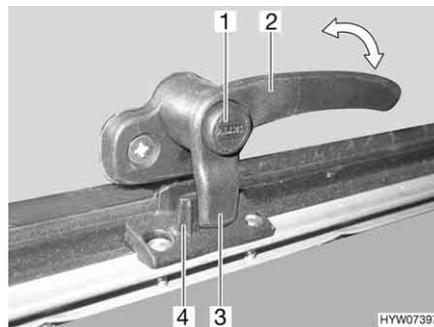
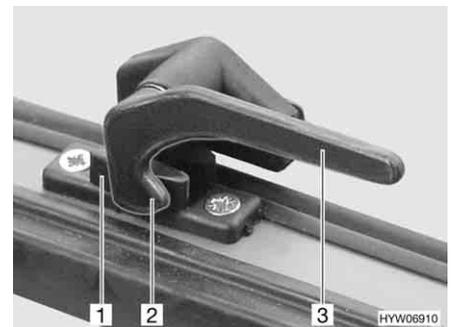

Fig. 97 Catch lever with safety knob in "closed" position
Fig. 98 Catch lever in "closed" position
- Press and hold the security button (Fig. 97,1), if present.
- Turn all catch levers (Fig. 97,2 or Fig. 98,3) a quarter turn towards the centre of the skylight.
- Turn all catch levers (Fig. 97,2 or Fig. 98,3) a quarter turn towards the frame. The locking catch (Fig. 97,3 or Fig. 98,2) is located on the inside of the skylight lock (Fig. 97,4 or Fig. 98,1).
- "Firmly closed" (Fig. 97 and Fig. 98)